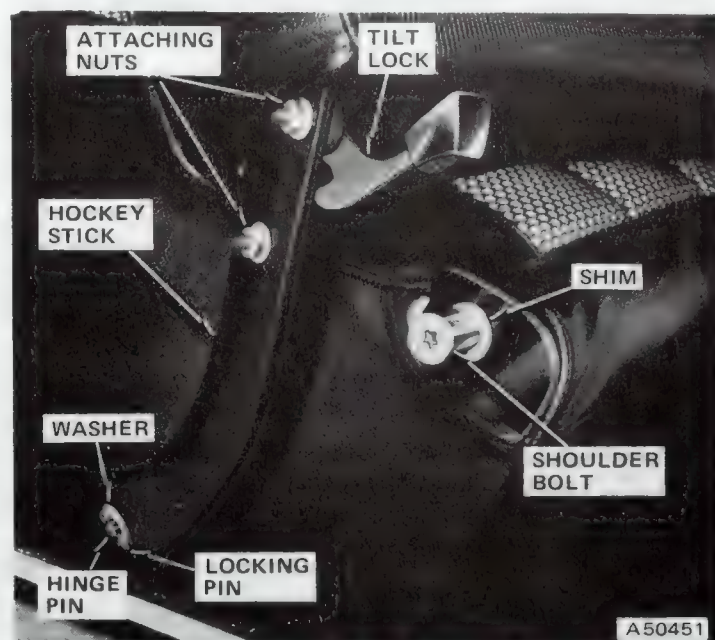

Fig. 3M-7 Split Bench Tilt Lock—Pacer
- (1) Remove tilt stop cable screw from seat back hockey stick (passenger seat only) using Torx Bit Tool J-25359-02, if equipped (fig. 3M-8).